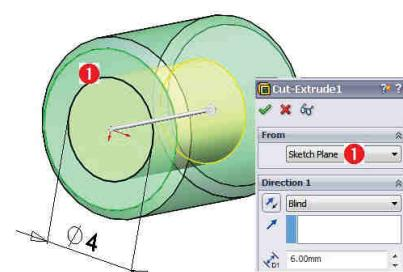

Fig. 2.48
**3 Trasare cerc decupare  $\phi 4$  mm:** Comanda Sketch – Fig. 2.48 – plan **1**.
**4 Extrudare contur decupare  $\phi 4$  mm:** comanda Extruded Cut - Fig. 2.48 - Blind / 6 mm distanță / .
**3 Sketching of the  $\phi 4$  cut circle:** The Sketch command – Fig. 2.48 – plane **1**.
**4 Extrusion of the  $\phi 4$  mm cut circle:** the Extruded Cut command - Fig. 2.48 – Blind / 6 mm distance / .